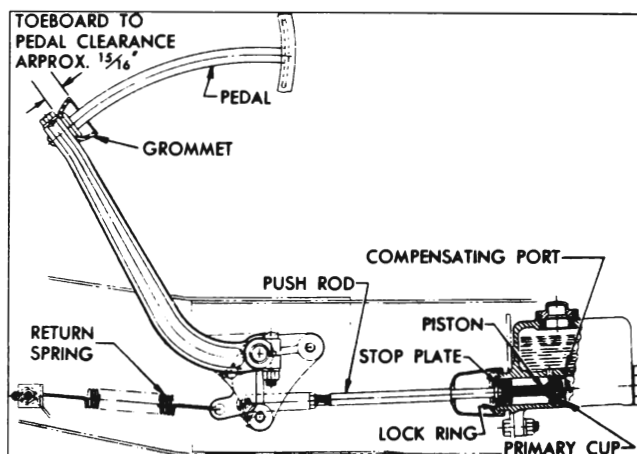

Figure 9-7—Brake Pedal Adjustment
The brake pedal adjustment is provided to insure proper position of the master cylinder piston and primary cup when brakes are released, and adequate pedal travel when brakes are applied. Pedal must be stopped in "off" position by contact of push rod with stop plate in master cylinder, in order that the piston primary cup will be clear of the compensating port. See figure 9-7.
2. Depress brake pedal, then let it return to "off" position—a slight metallic click will be heard if push rod strikes stop plate (fig. 9-7). NOTE: If pedal strikes toeboard, check for displaced lock ring and stop plate.